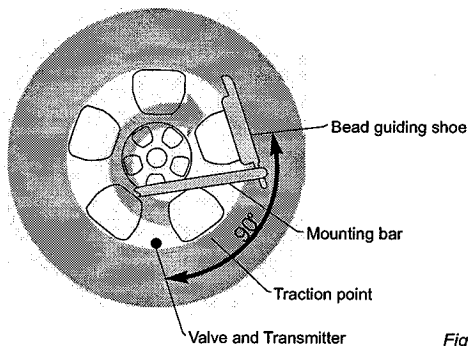

Fig.8
- When mounting the tire, avoid damaging the transmitter by positioning the wheel with the transmitter located 90° in front of the bead guiding shoe. The wheel is set to rotate clockwise. (See Fig.8)
- Set the lubricated tire on the wheel with its traction point 3" (8 cm) before the transmitter. Use the bead guiding shoe to guide the rest of the bottom bead over the flange and onto the rim. See Fig.8.